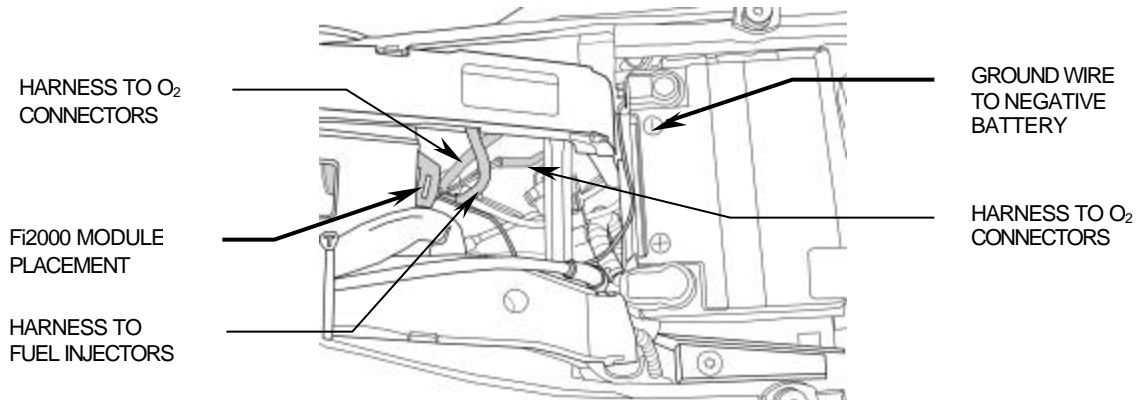

FIGURE 2
3. Lay the Fi2000 module in the open area just behind the fuel tank, Figure 2. By carefully prying the 3 locking tabs, open the right side of the black plastic runner that houses the stock wiring harnesses. Slip the Fi2000 harness into the runner; use the cutout on the left side towards the rear of the runner to feed the harness into it. Route the harness forward about 6 inches and then have it exit at the right side of the runner. Snap the top of the plastic runner back into place.
9. Feed the Fi2000 black wire under the frame cross member and attach it to the **NEGATIVE** post of the battery. Velcro the module onto the flat area of the frame in the open area, in a position where it will sit flat, see Figure 2.
10. Before re-installing the fuel tank, seat and air cleaner assembly, verify your connections. Remove the door from the Fi2000 box to expose the LED's. Verify the wire connections by (1) turning the ignition on, prior to starting, and see if all three LED's are on steady. If you have no light, your ground connection (BLACK wire) has not made proper contact or your front injector connection is not complete. (2) After achieving a steady light from all three LED's, start the motorcycle, wait 15 seconds and let it idle, the green light should now be the only LED on. If all three LED's are still on after start up, verify you have attached the injector connectors correctly. Reattach the door when finished. **Note:** Make sure the ignition is turned off before changing any connection.